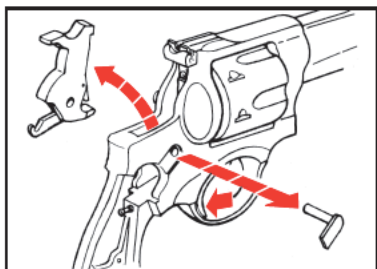

Figure 11
4. With thumb on hammer spur, squeeze trigger allowing hammer to go fully forward. Remove the hammer pivot assembly. With the gun muzzle pointing down, slowly lift the hammer upward and out of the frame (See Figure 11, p. 22). It may be necessary to move the mainspring lever forward in order to cause the hammer link hook to detach from the mainspring lever (See Figure 10 a.). If careful manipulation of the hammer and trigger does not disengage the hook, disengage it with the tip of a jeweler's screwdriver or similar device when the hook is in a near-off position.